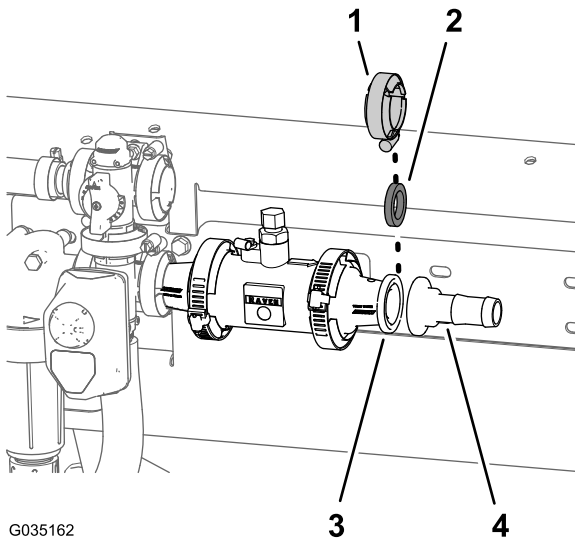

Figure 56
2. Align the gasket (1-5/16 inch) that you removed in step and barbed hose fitting to the end of the reducer adapter (Figure 56).
- Secure the hose fitting and gasket to the adapter (Figure 56) with the flange clamp 51 mm (2 inches).